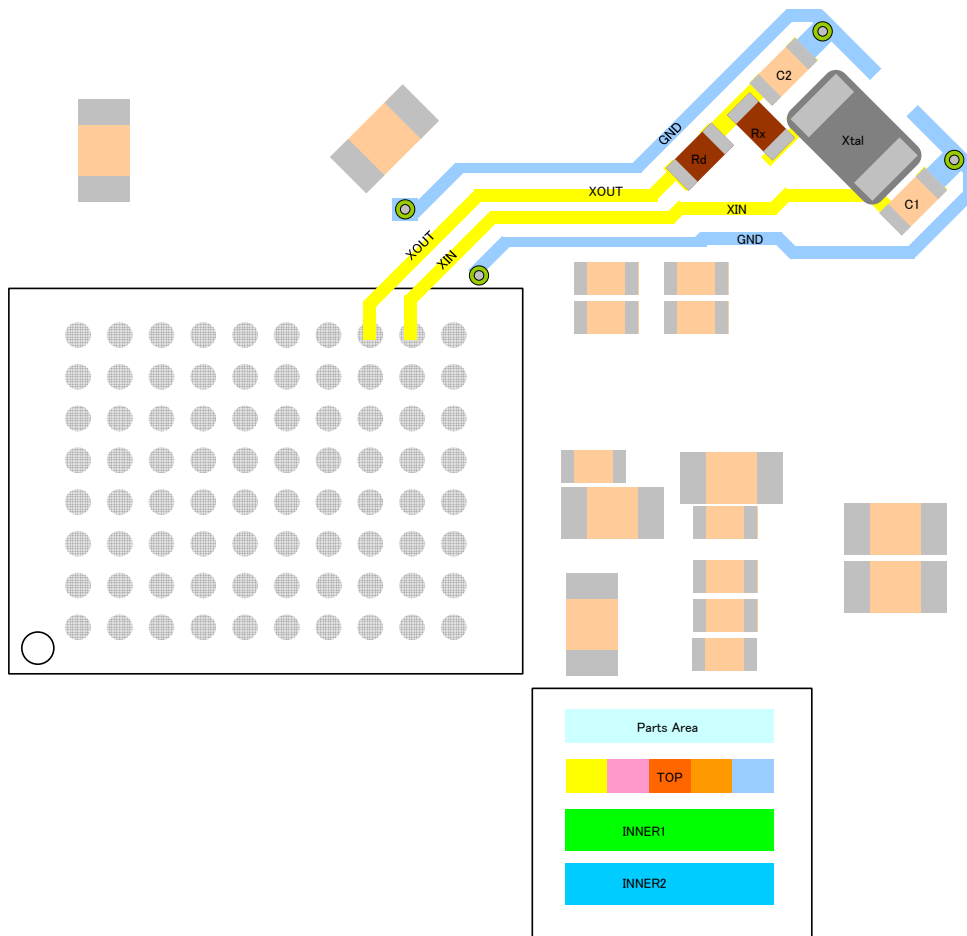

Fig. 1-7: Example of RTC Block Pattern (Top Layer)
- (1) Place the crystal unit as close as possible to the RC5T619-1xxx, the route the line on the single layer without via as short as possible, and not add a redundant line like Monitoring Line.
- (2) Place the input and output capacitors (C1 and C2 shown in Fig.1-7) as close as possible to the crystal unit, in order to reduce the extra parasitic resistance and capacitance.
- (3) Draw Land Patterns for Rx and Rd previously, because an adjustment by adding Rx and Rd is required when the using oscillator exceeds its "Drive Level" specs.
- (4) Connect the GND of the oscillation circuit with special GND plane on the component layer, and then connect with the internal GND plane by via or through hole.